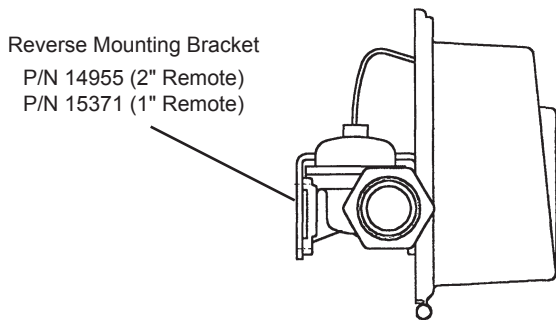

Figure 4
**NOTE: If "Meter Reset Timer Assembly" must be located on the opposite side of meter body, use bracket PN 14955 or 15371. See Figure 4.**